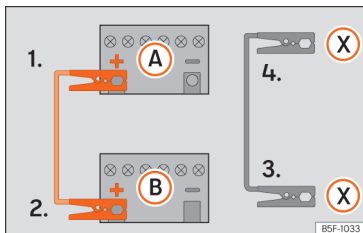

Fig. 44 Diagram of connections for vehicles with Start Stop system
- 4b. *In vehicles with a Start-stop system:* connect one end of the *black* jump lead (X) to a suitable ground terminal, to a solid piece of metal in the engine block, or to the engine block itself »» Fig. 44.
5. Connect the other end of the *black* jump lead (X) to a solid metal component bolted to the engine block or to the engine block itself of the vehicle with the flat battery. Do not connect it to a point near the battery (A).